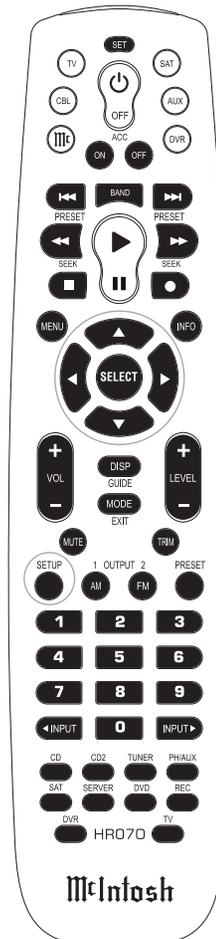

Figure 8
1. Press and release the SETUP Push-button on the Remote Control to enter the Setup Mode. Refer to figure 8. The words “Installer Menu” will appear on the Front Panel Information Display and the Installer Menu (main menu) will appear on the Monitor/ TV Screen. Refer to figures 9 and 10.